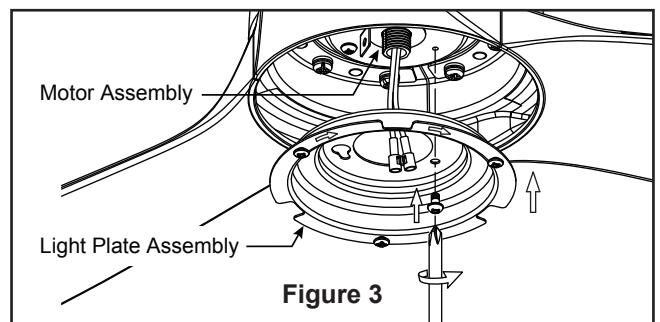

Figure 3
3. Assemble the light plate assembly to the support bracket using the two key slots in the light plate assembly. Replace the previously removed screw and securely tighten all three screws. (Figure 3)